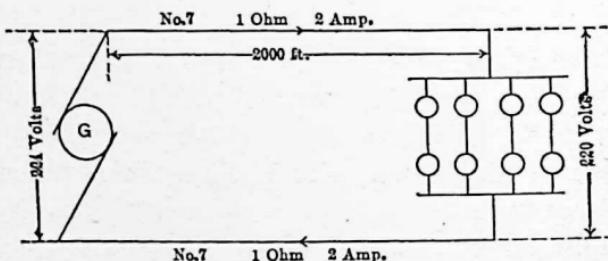
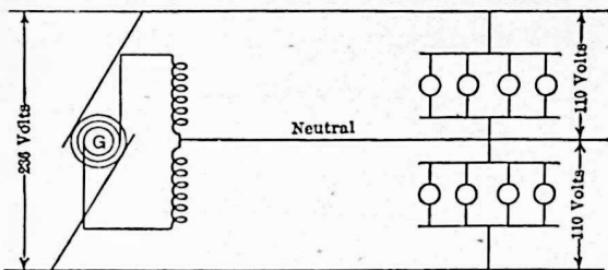

FIG. 91. Two-wire system. The two line wires each carry 4 times the current of each lamp.
FIG. 92. Three-wire system. Each outside wire carries 4 times the current of each lamp. The neutral carries no current in this case.
Suppose that we now arrange these same lamps as in Fig. 91. By placing two in series in each case, each lamp
It would require 8×2 , or 16 volts to send the 2 amp. of Fig. 91 through this line.
To avoid this bad feature and still retain the advantage of transmitting at 220 volts, a third wire, called a neutral, has been added to the arrangement in Fig. 91, which produces the three-wire system, as shown in Fig. 92.
50. Voltage Distribution in Three-Wire System. In using the three-wire system, every effort is made to keep it balanced. In this case, the voltage, current and power distribution differ in no respect from that of a two-wire system, with lamps, or other electrical appliances, paired off, two in series, as in Fig. 91.